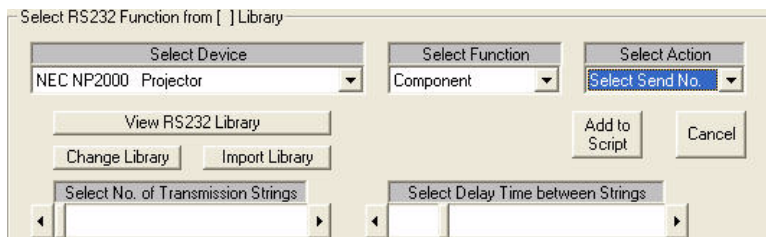

FIG. 58 Select RS232 Function window - Select Number of Strings/Delay Time between Strings
- Click the arrows on the *Select Delay Time between Strings* field to set a delay time between strings. (FIG. 58).